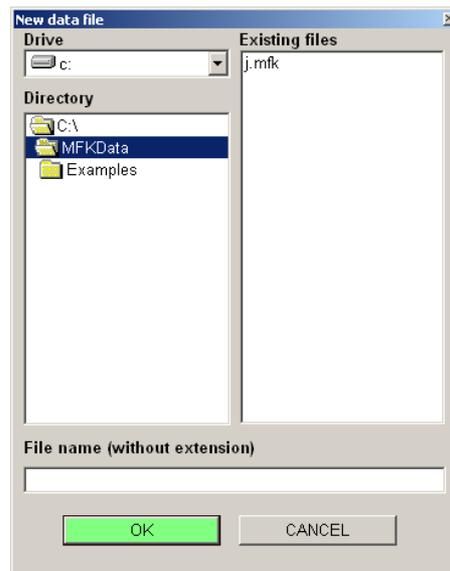

Figure 13: Window for creating a new file.
- **Creating a new data file.** To create a new data file go to the main menu: *File|New file (Ctrl+N)*. In the **New data file** window fill the file name and choose its directory (Fig. 13). When finished, click OK, new file is created and the file name is displayed in the caption of the main window.